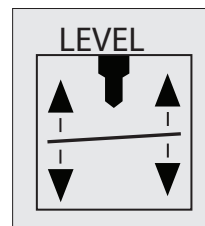

Fig. 96
1. Select 'Level' on the touchscreen. (Fig. 96)